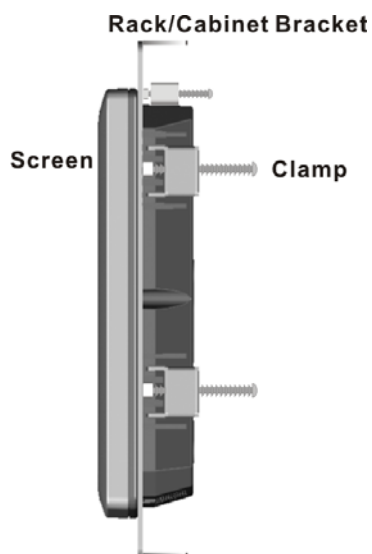

Figure 3-27: Secure the Rack/Cabinet Bracket (AFL-10A-N26/AFL-12A-N26)
Step 3: Tighten the screws that pass through the rack mounting clamps until the plastic caps at the front of all the screws are firmly secured to the bracket (**Figure 3-27**).